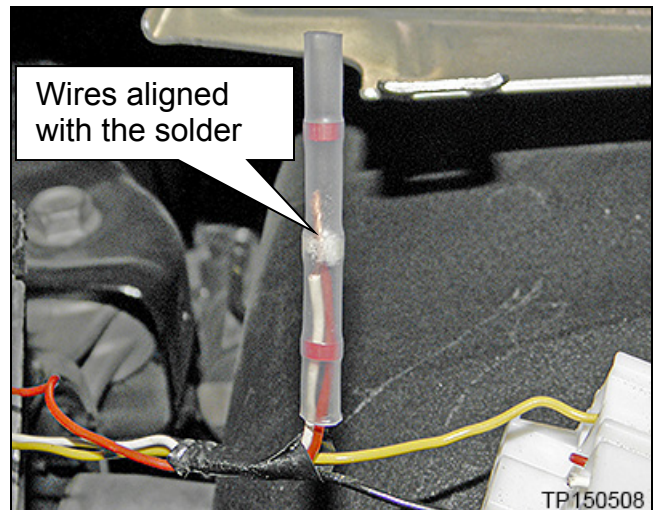

Figure 9
11. Slide a solder sleeve connector (#J-47003-2) over the twisted pair (Figure 9).